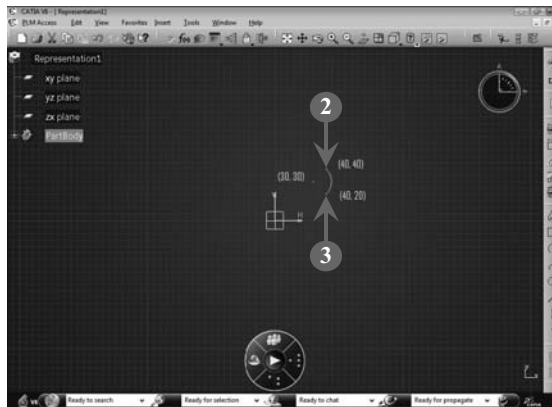

FIGURE 2.35
An arbitrary point set by user at (30, 30) is displayed (**Figure 2.35**). This point in the Sketcher workbench works as the center of the arc.
2. Move the mouse pointer from the first point (30, 30) to a second point (40, 40) through which the circle will pass (**Figure 2.35**).
3. Move the mouse pointer from the second point (40, 40) to the third point (40, 20) to complete the arc formation, as shown in **Figure 2.35**:
In Figure 2.35, an arc with center (30, 30), starting point (40, 40), and end point (40, 20) is displayed.